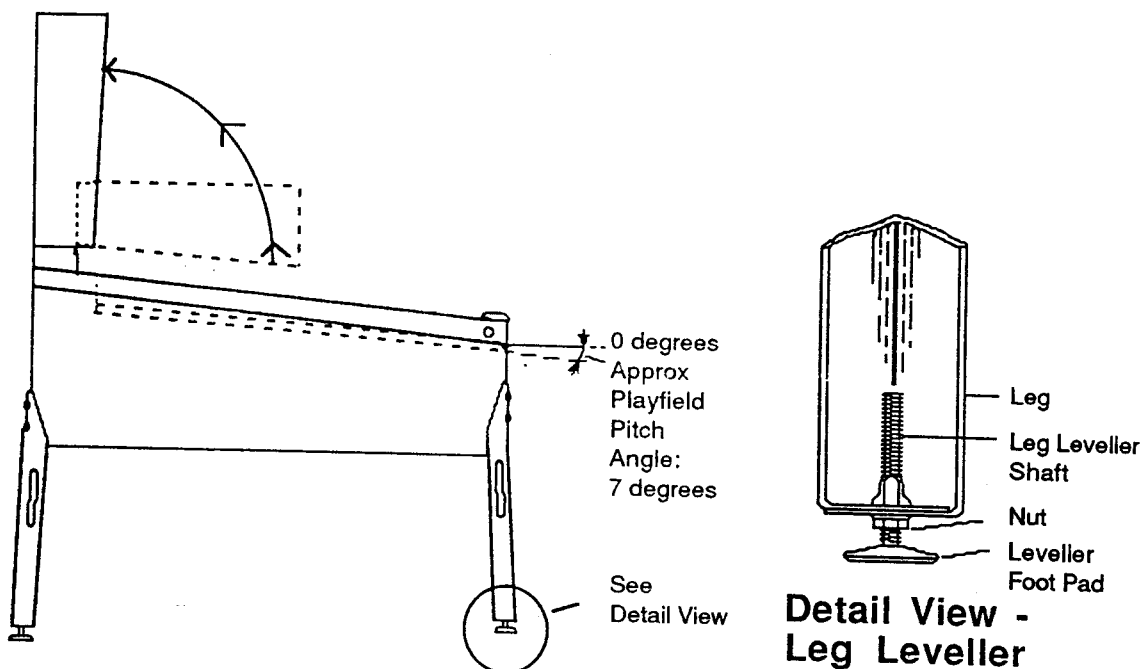

Figure 3. Pinball Assembly, Playfield Pitch Angle, and Leg Leveler Details.
3. Attach the front legs (after installing leg levellers), using leg bolts. See Figure 3 for details.
7. Adjust the leg levers for proper playfield level (side-to-side) and playfield pitch angle (incline) of approximately 7 degrees. (Again, it is recommended that these measurements be made ON the playfield, not the cabinet nor the playfield cover glass.) Tighten the nut on each leg leveller shaft to maintain this setting, as shown in Figure 3.